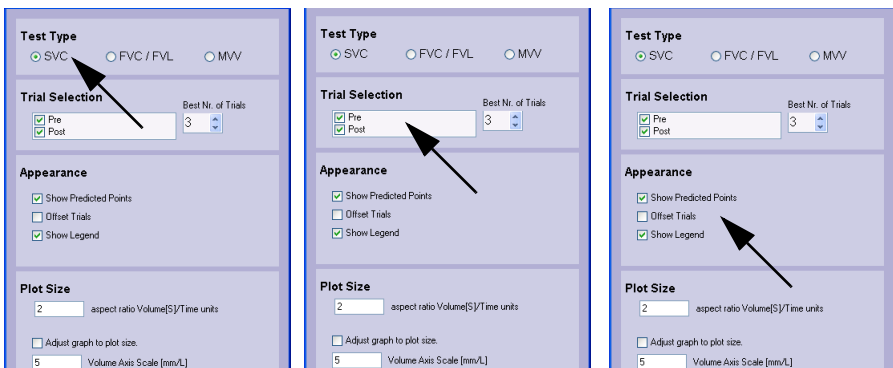

Fig. 12-10: Spiro Graph Configuration window
- Click **Run Designer**. The Spiro Graph Configuration window will be displayed (Fig. 12-10):